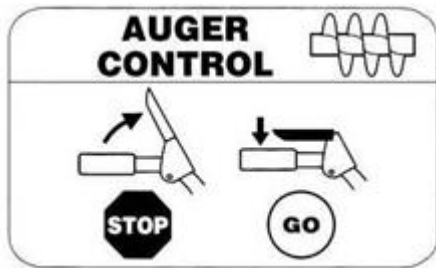

Figure 4
4. Mount the control handles: place the handle on the rod, and fix it tight in right direction (Fig. 4).
The auger control is located on the left handle. Squeeze the control grip against the handle to engage the augers and start snow throwing action. Release to stop. See Figure 4.